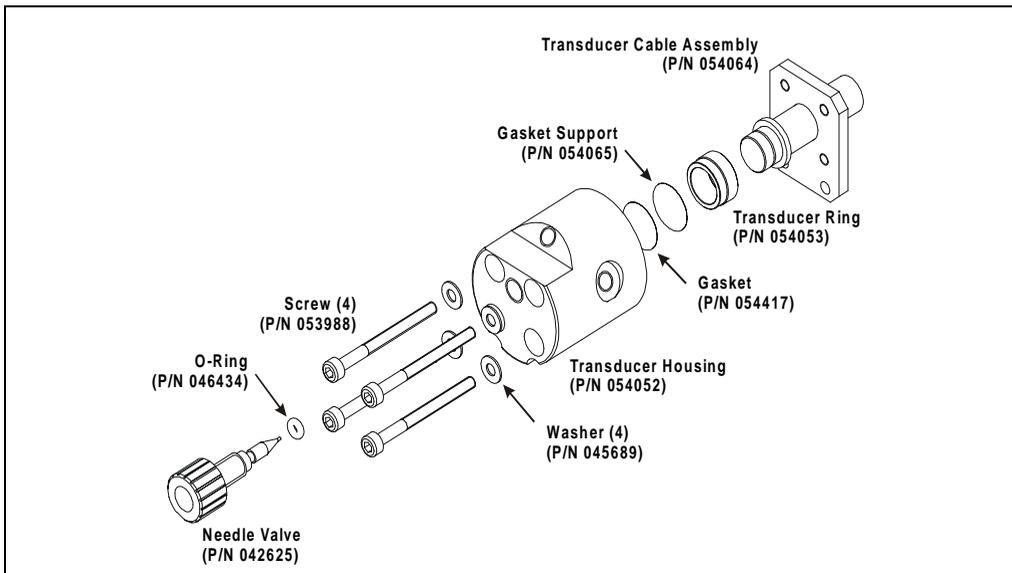

Figure 5-5. Pressure Transducer Assembly
3. Remove the O-ring (see Figure 5-5).